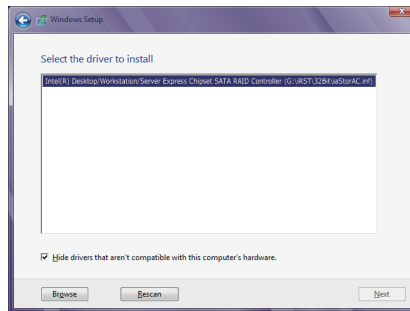

Figure 1
When a screen as shown in Figure 1 appears, select **Intel(R) Desktop/Workstation/Server Express Chipset SATA RAID Controller (D:\IRST\32Bit\usb4k.inf)** and click **Next** to load the driver and continue the OS installation.